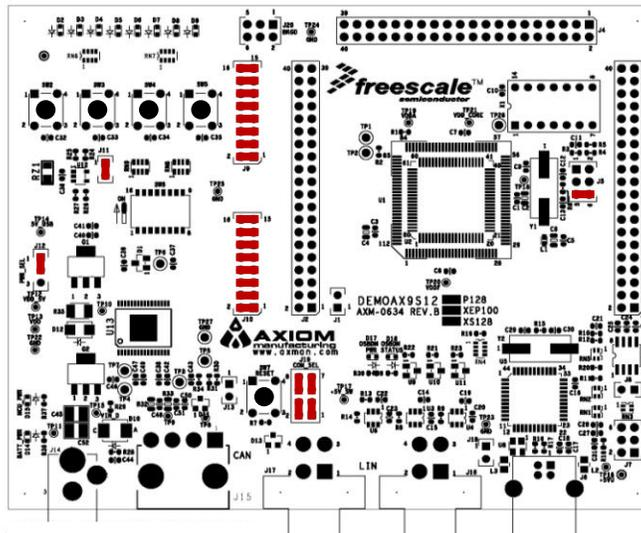

Figure 1: DEMOAX9S12 Default Option Settings
1. Verify the option jumpers are set in default positions. Refer to Figure 1 above.
- Ensure the option jumpers are set to default positions. Refer to Figure 1 above. Specifically, ensure the PWR_SEL option jumper is set correctly.